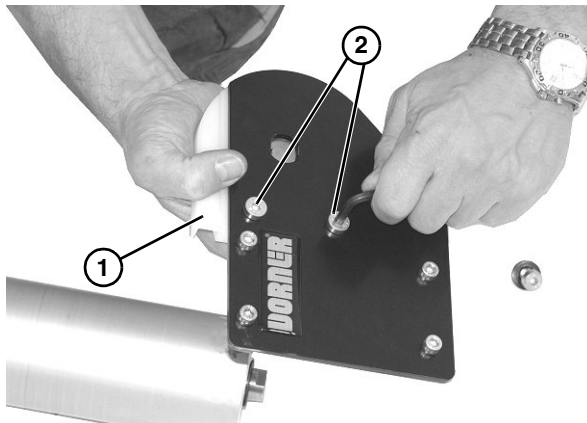

Figure 39
7. Check idler terminal assembly (**Figure 39, item 1**) for wear. If worn, remove two low head cap screws (**Figure 39, item 2**) and replace.